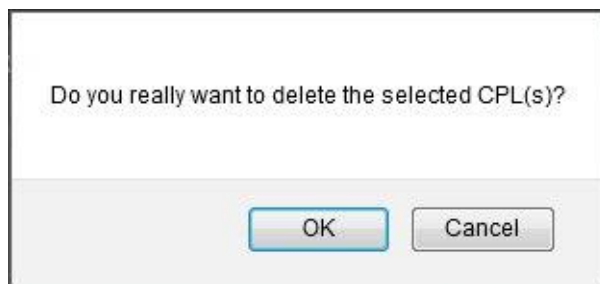

Figure 286: Delete CPL Window
- A window will appear asking to confirm (Figure 286).